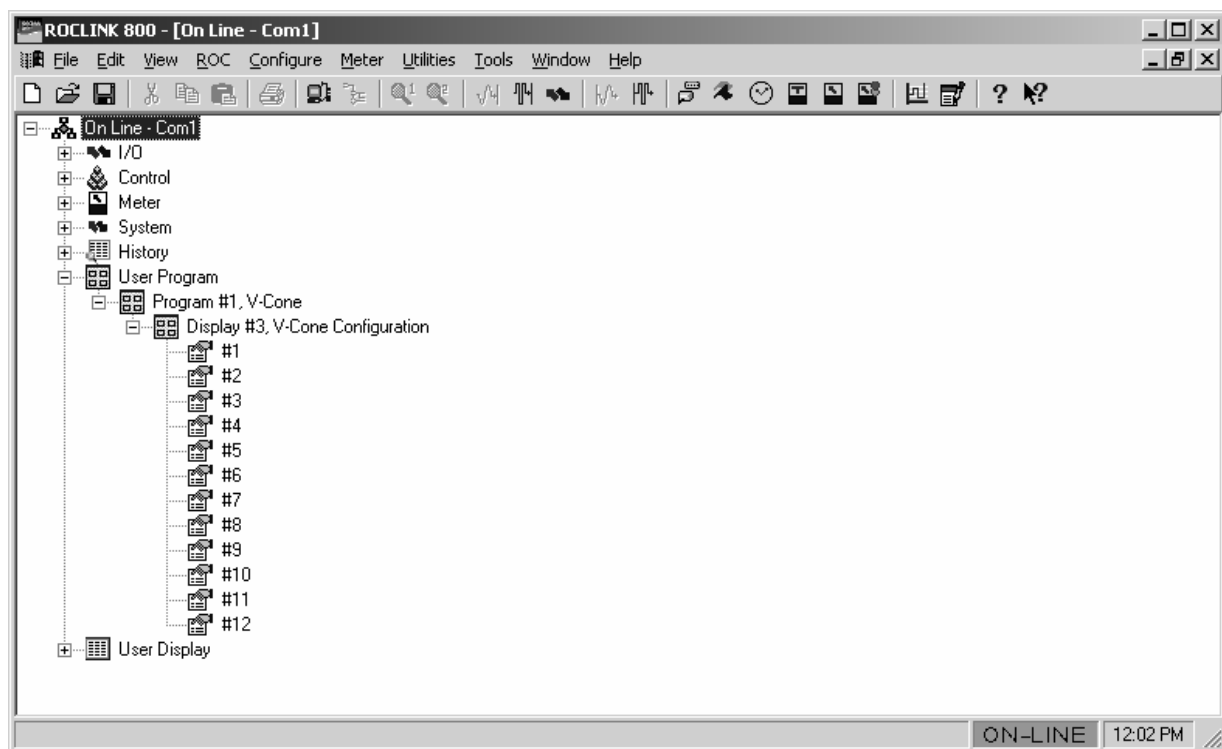

Figure 3. Configuration Tree Menu
1. Expand the 'User Program' item in the Configuration Tree Menu (available while on-line with the ROC809 unit). See Figure 3.